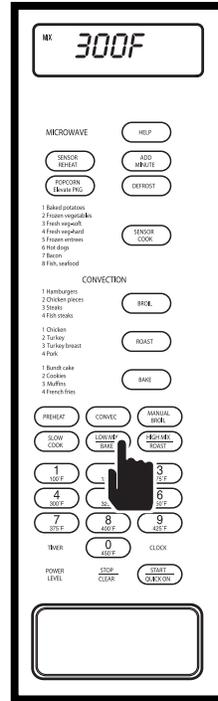

Figure 3-89.
1. Press LOW MIX/BAKE key, "300F - ENTER - COOKING - TIME" will flash on display. (See Figure 3-89)